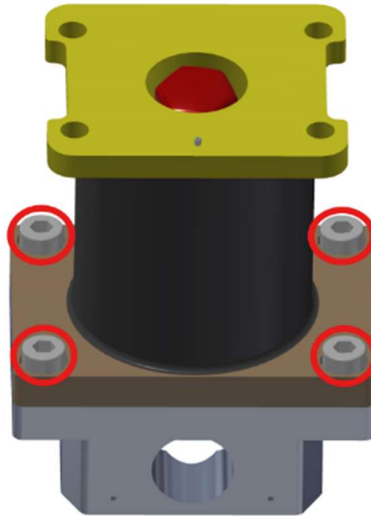

Figure 6-26. Remove the Thoracic Spine Load Cell (SA572-S107) from the Lumbar Assembly (474-3223) by removing four M8 X 1.25 X 20 LG. SHCS
- 6.2.15 Remove the Thoracic Spine Load Cell (SA572-S107) from the Lumbar Assembly (474-3223-A) by removing four M8 X 1.25 X 20 LG. SHCS (Figure 6-26).